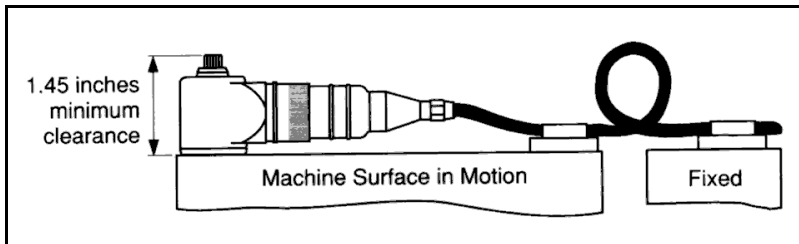

Figure 2
5. Anchor the cable to reduce stress at the cable terminations. When securing the cable, leave enough slack to allow free movement of the accelerometer as shown in Figure 2.